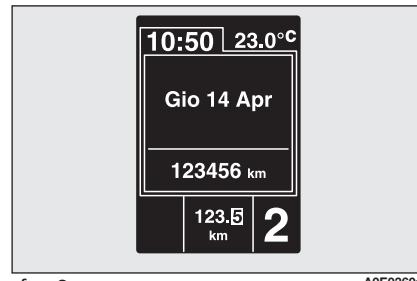

fig. 3
- in sequential operation, the manually engaged gear is displayed by showing the relevant figure **fig. 3**.